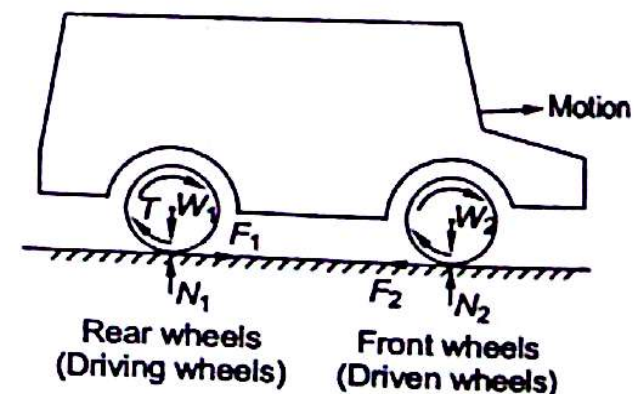

Fig. 6.15
- (ii) **Driving and Driven wheels of an automobile:** Consider a rear wheel drive vehicle as shown in Fig. 6.15, travelling towards right as shown. Driving torque on rear wheels is T . This torque is provided by the engine through the propeller shaft. The engine torque T , tends to rotate the wheels in the clockwise direction.